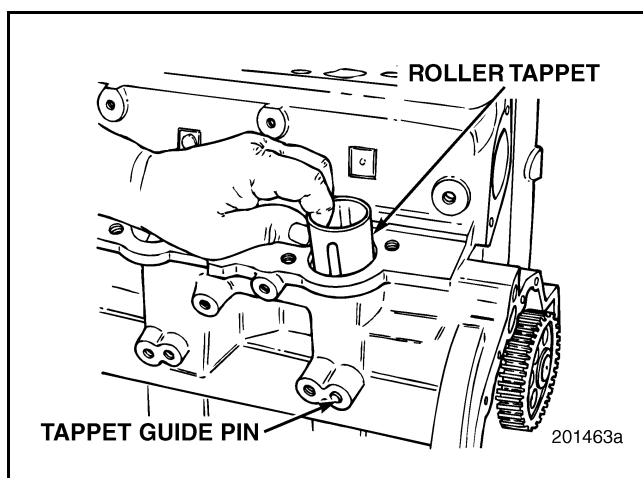

Figure 447 — Positioning Tappet
- c. Drive the pin into the bore until it is flush with the cylinder block outer surface as shown in Figure 447.
2. Submerge the roller tappet into a container of clean engine oil to allow oil to fill the passage to the roller axle. Remove the roller tappet and while holding it vertically, spin the roller to make sure that oil flows to the surfaces between the axle and roller. This step is important to provide adequate break-in to the axle and roller at initial start-up of new components. Then, carefully install the tappet into the bore using a finger. Refer to Figure 447.